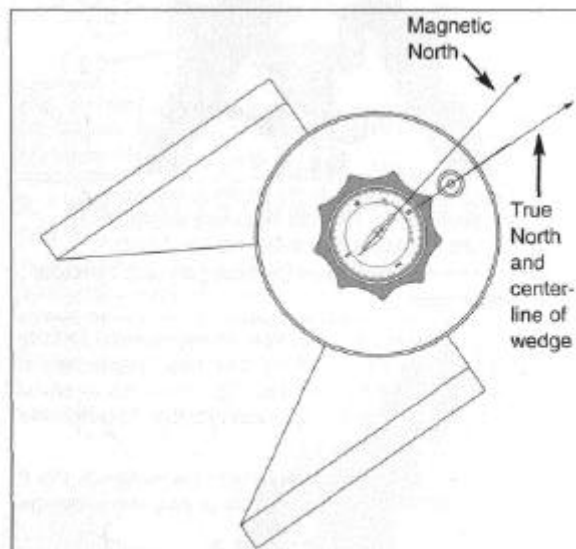

Fig. 19: Equatorial Wedge.
3. Rotate the equatorial wedge in azimuth (without moving the knob/compass) until the centerline of the wedge lines up with the point of the knob/compass (Fig. 19). The centerline of the